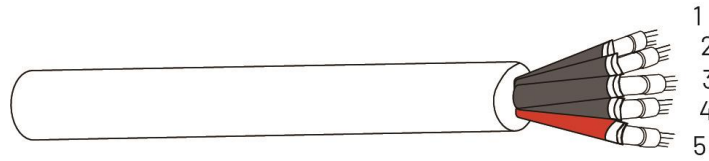

Figure 4-20
2. Crimp the five cables as figure4-20: